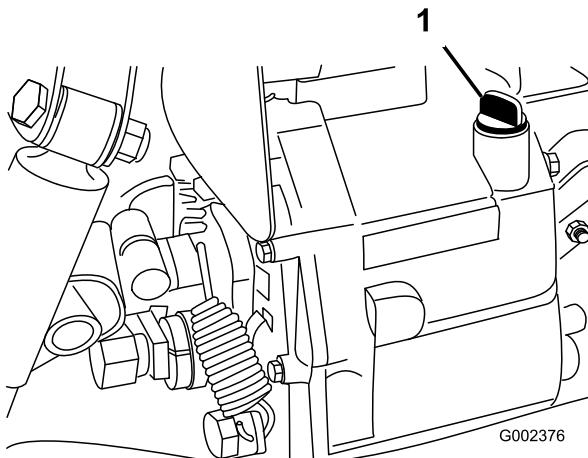

Figure 18
2. Clean the area around the dipstick (Figure 18).